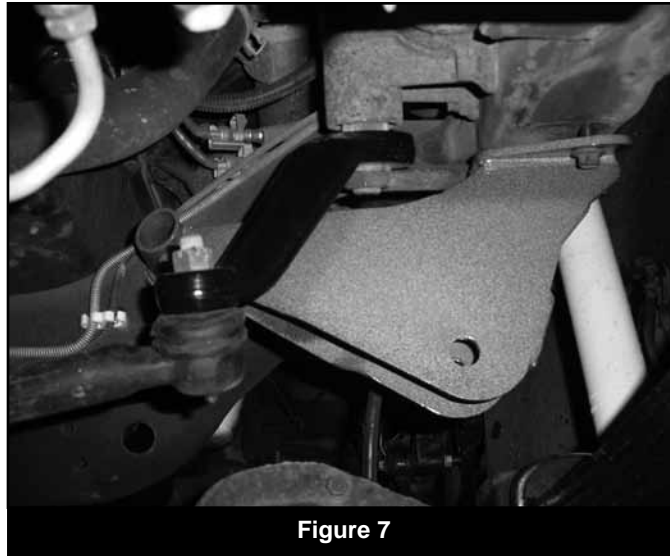

Figure 7
18. Install the new track bar bracket to the original bracket mount points (Fig 7). Fasten with the factory hardware. Torque bolts to 65 ft-lbs.